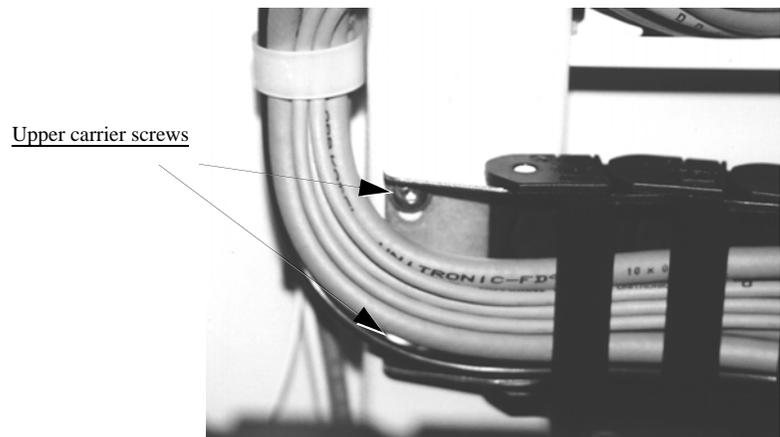

Figure 6-14—Upper carrier screw locations
- 2b) Check the two screws on the **upper carrier** and tighten if necessary. See Figure 6-14.